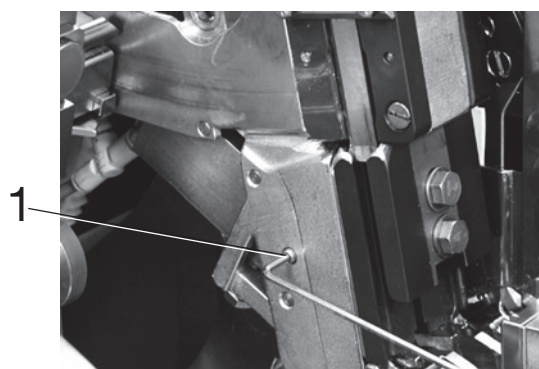

Fig. 7-36 1 Screwing on the adjusting screw
- Screw on the adjusting screw (1, Fig. 7-36)